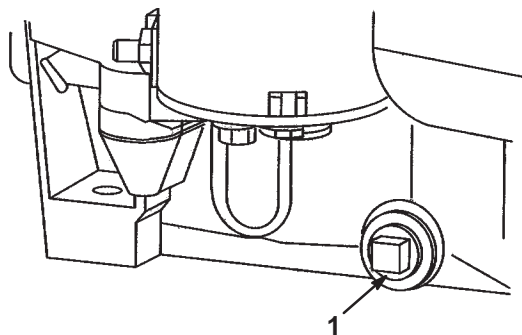

Figure 19
- Place a drain pan below the oil dipstick/fill tube and remove the drain plug (Fig. 19).